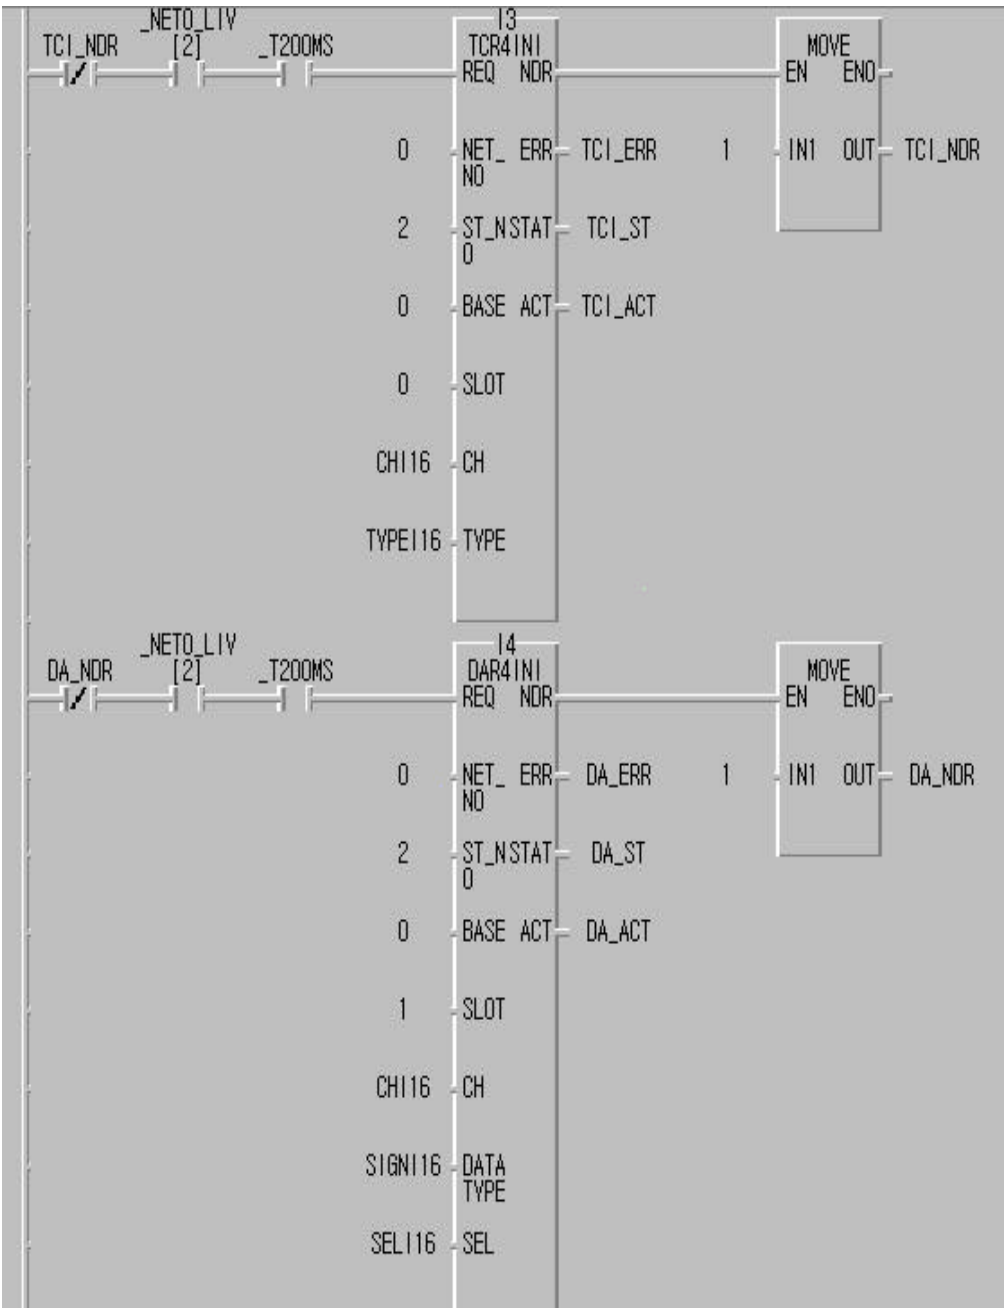

Fig. 6.6.6(A) Special module initialization program of remote I/O
Fig. 6.6.6(A) explains a program that initializes T/C and D/A module of slot 0 and 1 in remote system of Fig. 6.6.4(A). Read/write command can be performed only if special module initialization is successfully performed. To do this, NDR output of initialization F/B is set to 'B contact' for initialization request condition, and a program is made to retry with a period of 200ms until initialization is finished.